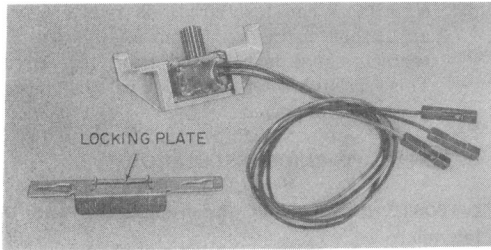

Fig. 7—D-180812 Kit of Parts
3.13 Install the D-180812 Kit of Parts (Fig. 7) as follows.